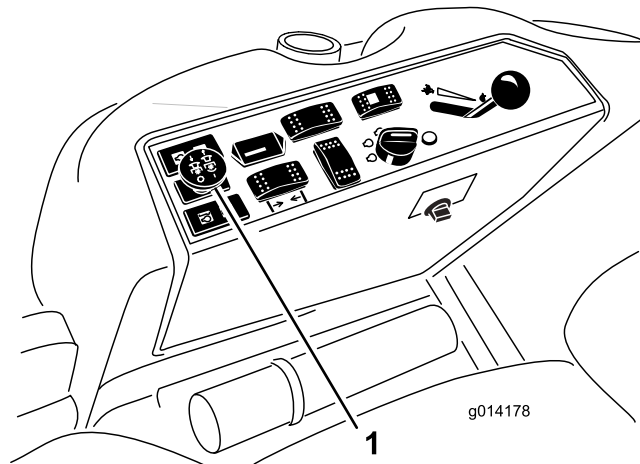

Figure 12
3. Pull up on the PTO switch to engage it (Figure 12).